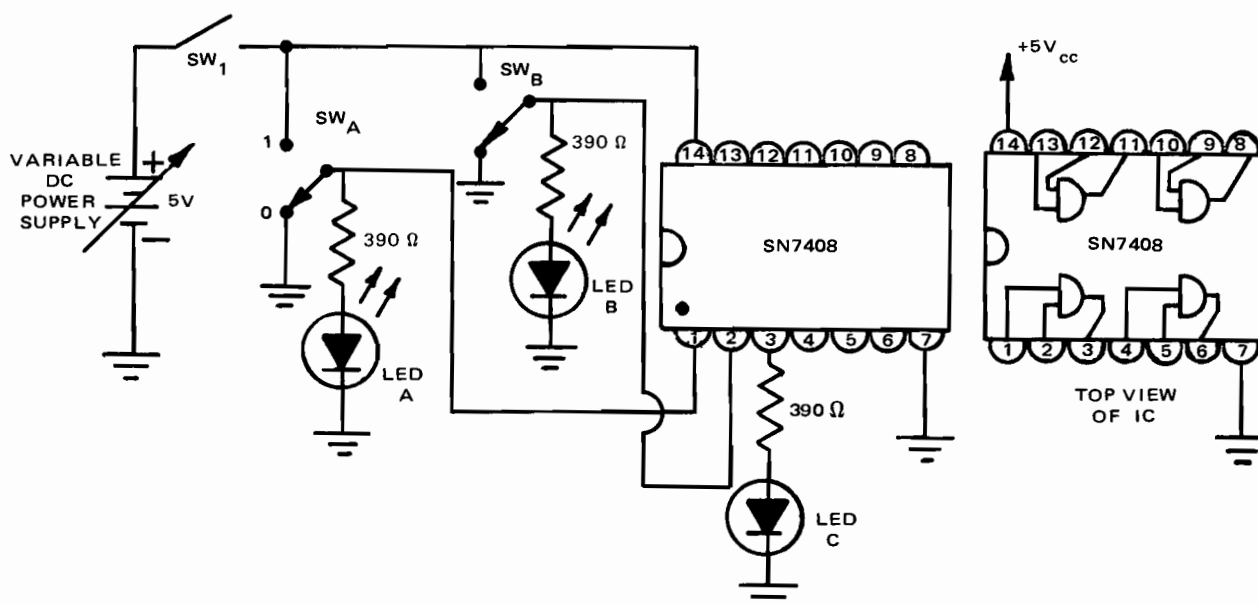

Fig. 17-1-1
1. Connect AND gate test circuit as in Fig. 17-1-1.